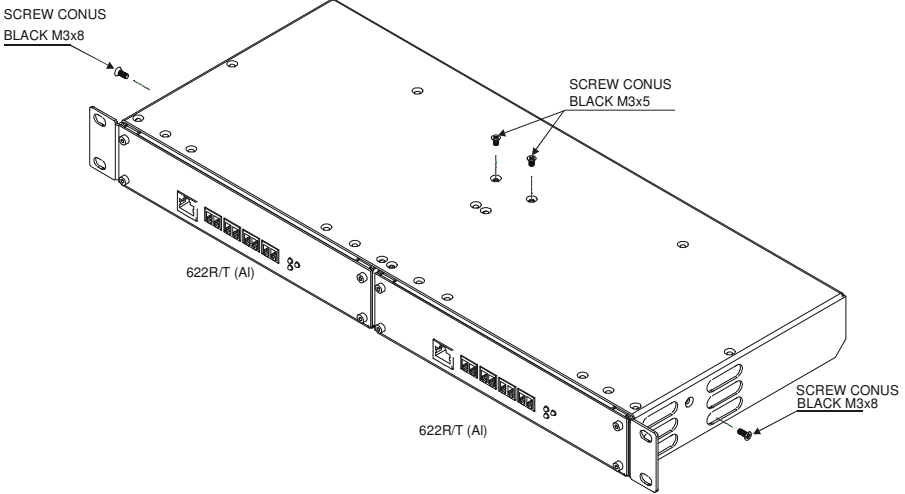

Figure 3: RK-622 Rack Adapter – Connecting the 622 (Aluminum)
4. Insert the appropriate amount of screws through the holes on the **RK-622** that fit the holes on the underside of the **622**, using the screws supplied with the unit (as illustrated in Figure 3).